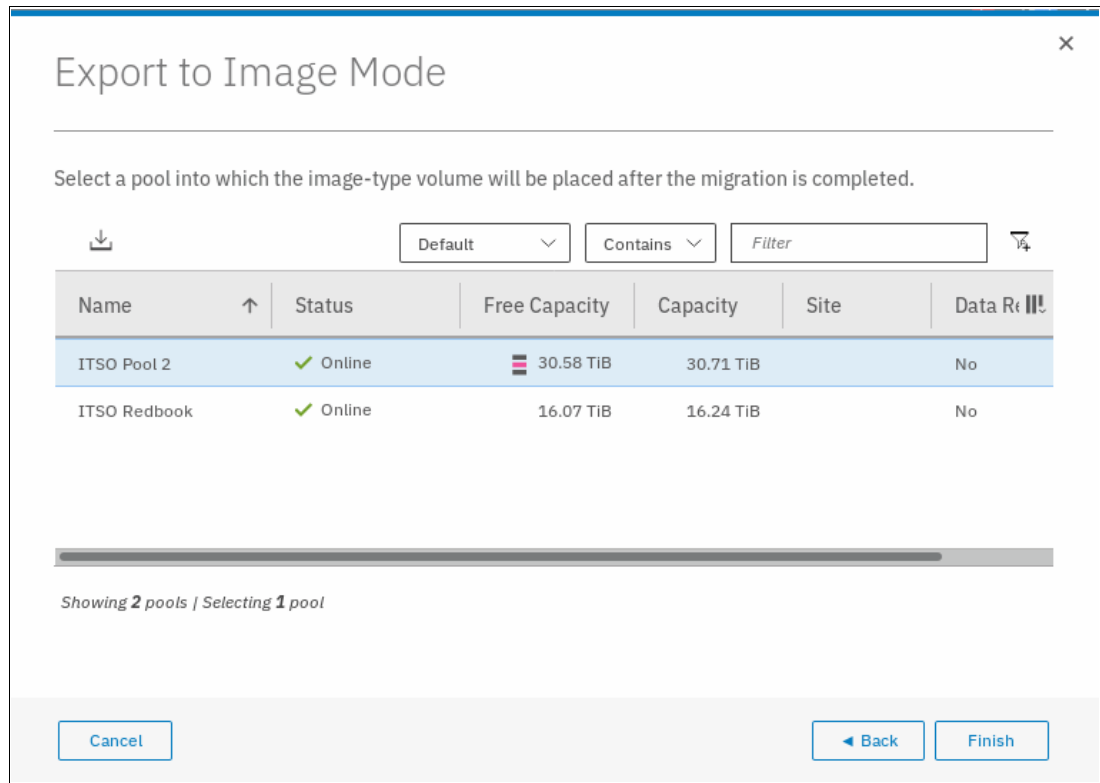

Figure 8-45 Select the storage pool
3. Select a storage pool into which the image-mode volume is placed after the migration completes, as shown in Figure 8-45.